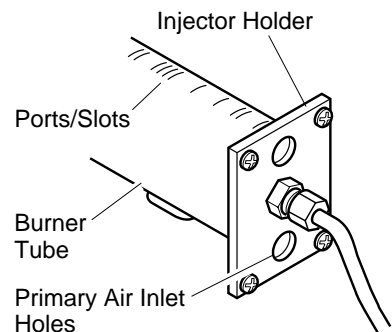

Figure 44 - Injector Holder On Outlet Burner Tube
2. Inspect burner, pilot, and primary air inlet holes on injector holder for dust and dirt (see Figure 44).